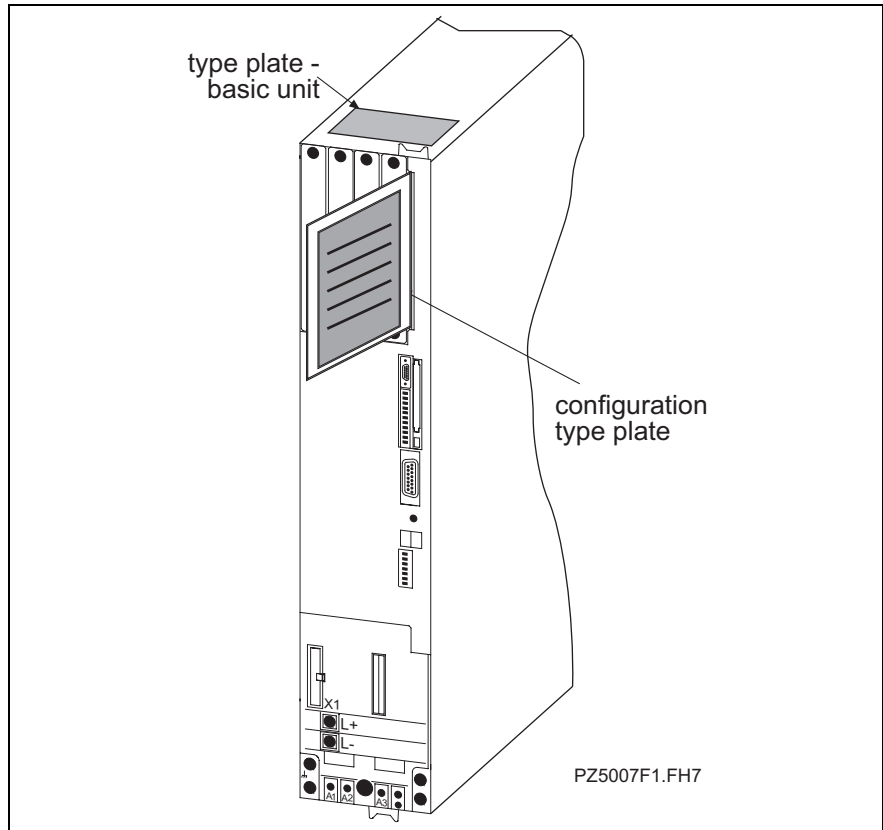

Fig. 7-2: Position of the type plates
- Position of the type plate** The controller is clearly identified by two type plates (see Fig. 7-2) :